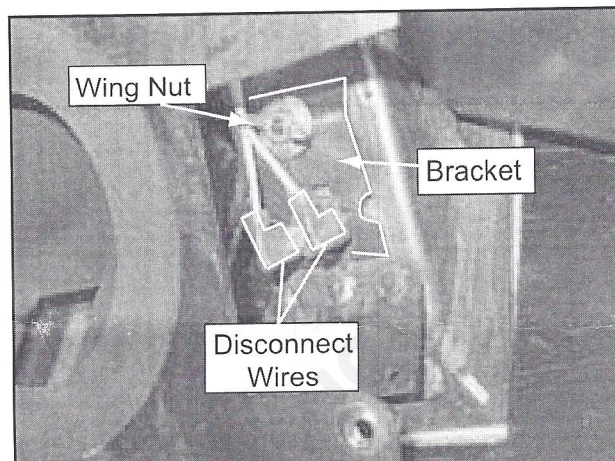

Figure 4
10. Disconnect wires from snap disc #2. **Figures 4 .**